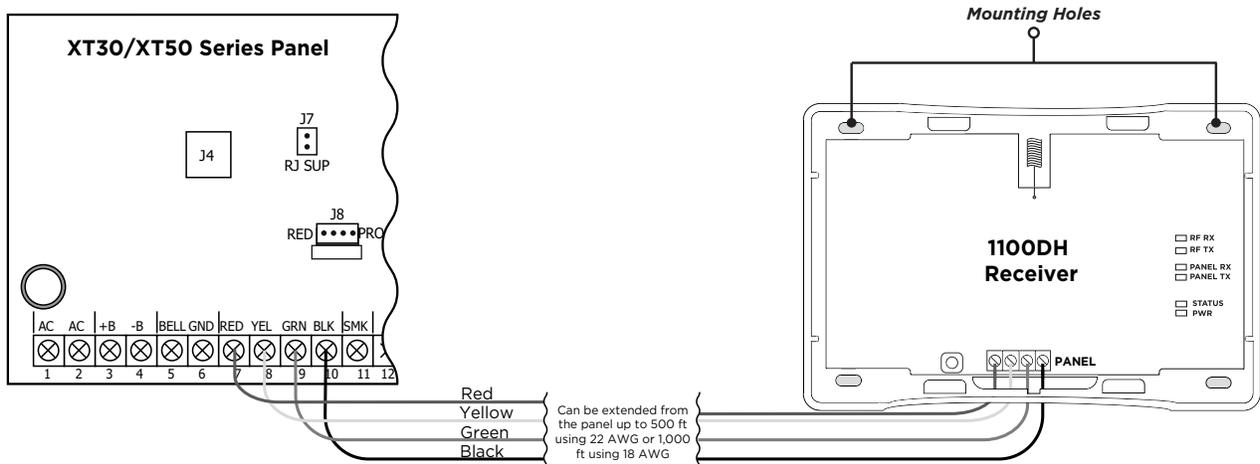

Figure 2: Wiring the 1100DH to the Panel
2. Connect the other end of the wires to the terminals 7, 8, 9, and 10 on the panel. See Figure 2
3. Use the included #6 screws to secure the 1100DH to the wall. See Figure 2 for mounting hole locations.
The six labeled LEDs on the 1100DH PCB display wireless receiver operation and activity. See Figure 2 for LED locations and Table 2 for LED indications.